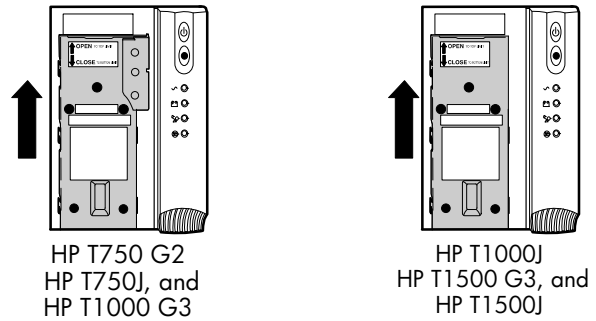

Figure 3 Removing the Battery Cover
- 3 Slide up and remove the metal battery cover (see Figure 3). Do not remove any screws.